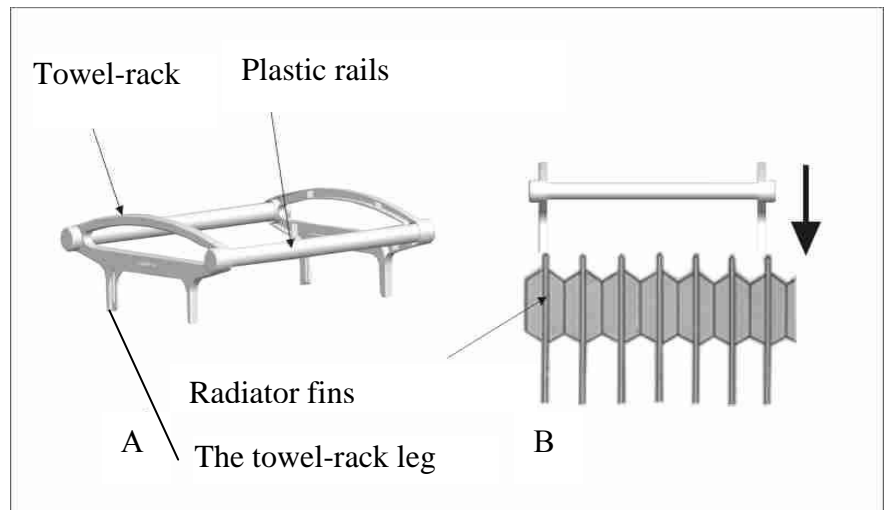

Figure 6
1. The towel-rack slots should be joined with the fin edges as shown in the picture (figure 6 A).
2. You should push slightly the towel-rack to make it firmly join together. (figure 6 B)